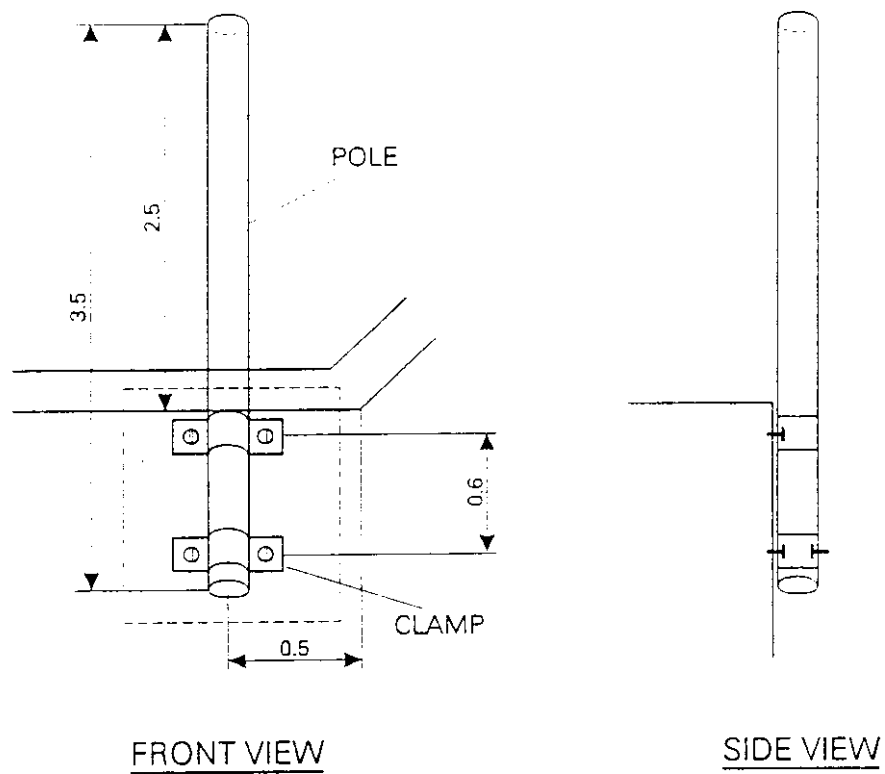

Figure 5-8. Flat Roof Pole Mounting
The FAU unit may be mounted on a pole which is attached to a wall. The mounting method depends on whether the building has a flat or slanting roof. Figures 5-8 and 5-9 show the flat and slanting roof methods respectively.
5.9.1.1 Flat Roof Pole Mounting (refer to Figure 5-8)